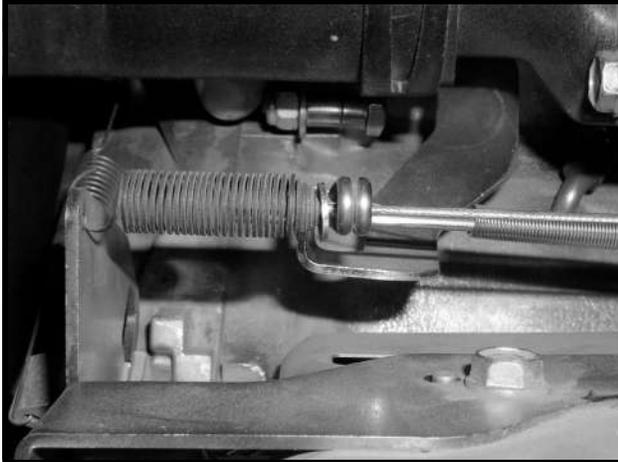

Figure 13a-21 Washer Width Space
3. Adjust the accelerator cable at the pedal until there is a washer-width space between the washer and the governor wire form as shown (**Figure 13a-21, Page 13a-22**).
- The (transmission) governor arm (4) must be adjusted every time the governor cable (5) is replaced or removed and every time the governor wire (9) is removed (**Figure 13a-22, Page 13a-23**). Incorrect adjustment may result in severe personal injury or death.